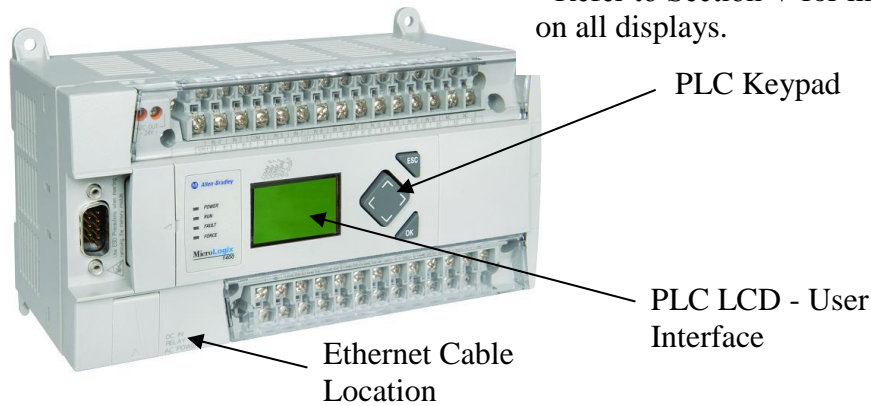

Fig 1 - Allen Bradley MicroLogix 1400 PLC Controller
3. The next screen will ask for the local address that will be operated by the number 1 on the selector switch. Enter the last two digits of the IP address, which is the local address for this monitor. Use the arrow keys, described in Section III, Fig. 1, to navigate through the numeric positions and press the [OK] to enter the value.